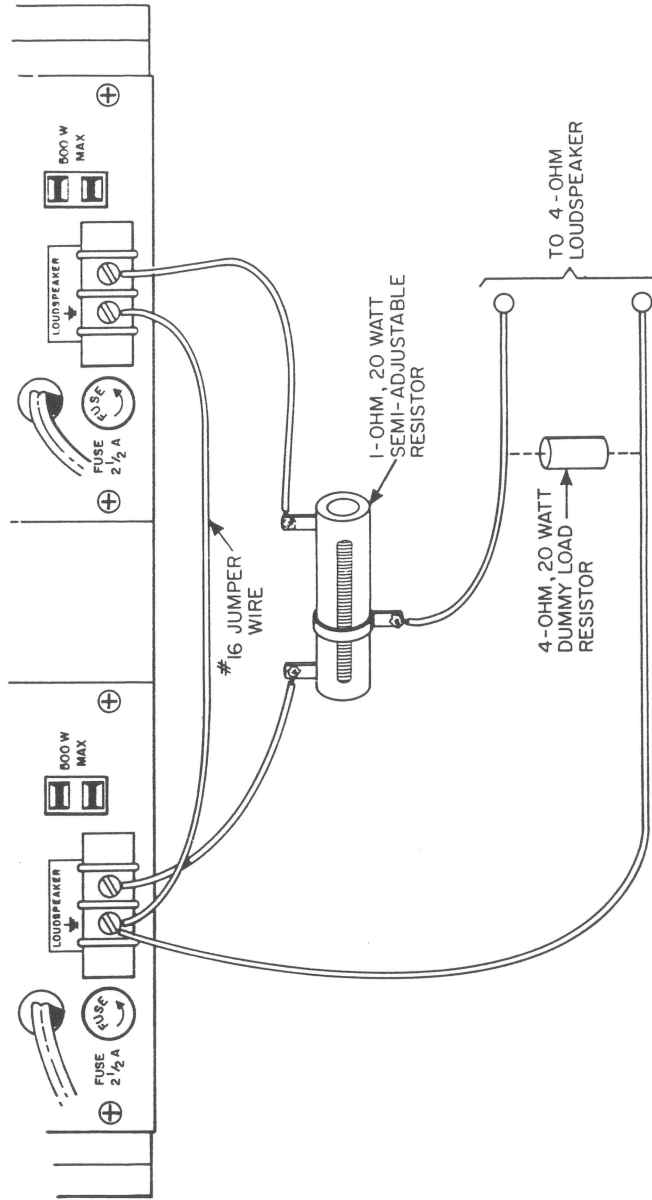

Figure 3. Parallel-Connected Operation with 4-ohm Load
Since the model 15 does not employ output transformers, parallel-connected operation will not provide the significant increase in power output obtainable from tube-type circuits. This effect is particularly noticeable with 8 or 16-ohm loudspeaker loads. With 4-ohm loads, however, substantially more power can be obtained, using the circuit connection shown in Figure 3.
- Step 2. Connect the adjustable resistor, the 4-ohm dummy load resistor, and the jumper wire to the LOUDSPEAKER terminals of both amplifier modules, as shown in Figure 3.